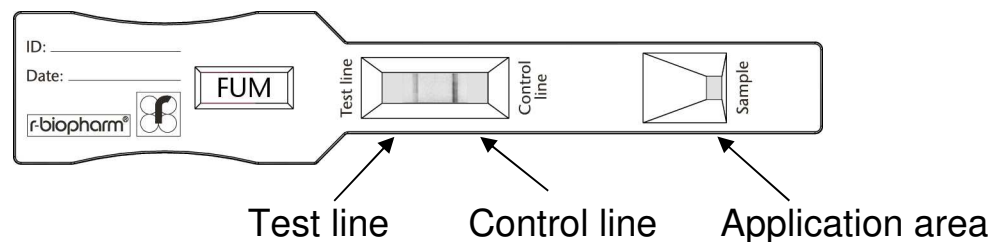

Fig. 1: RIDA®QUICK Fumonisin RQS ECO test strip.
- Apply 100 μ l of dilution I or dilution II (see chapter 8. Sample preparation) on the application area of the test strip (see Fig. 1).
The left line in the reaction area is the test band (test line, see fig. 1). Its appearance and intensity depends on the fumonisin concentration of the sample. The sample is contaminated with fumonisin, if the control band (control line) is visible and the test band (test line) is also visible.